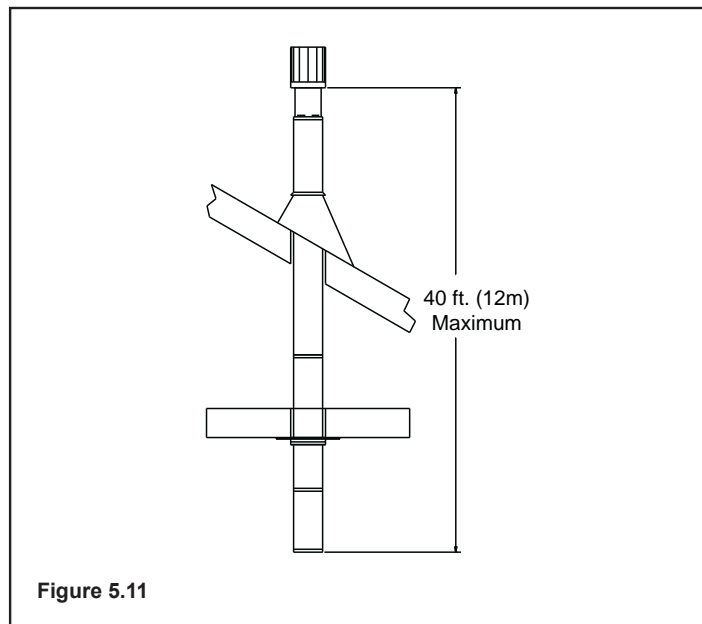

Figure 5.11
**NOTE:** Maximum vertical rise allowable is 40 ft. (12m) **Figure 5.11**).